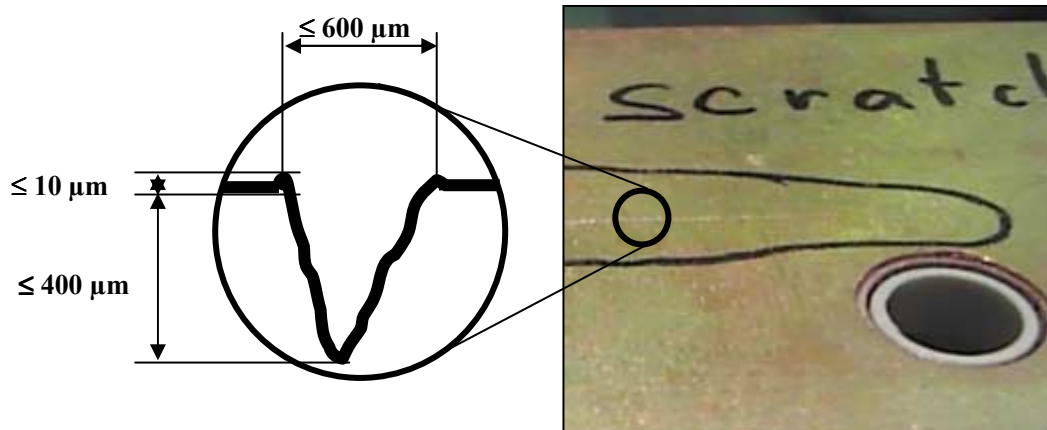
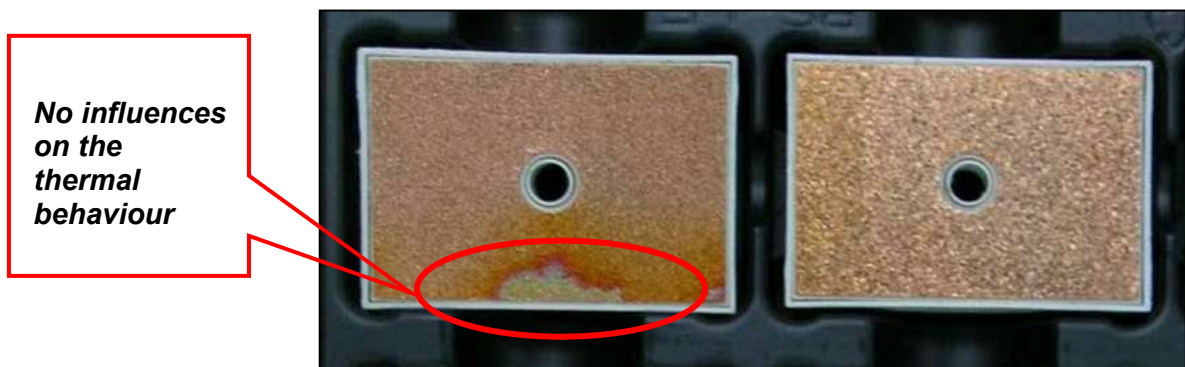

Figure 2 - Scratches on the SEMITOP bottom surface
Figure 3 – Discoloration on SEMITOP bottom surface
- The following figures (Figure 2 and Figure 3) define surface characteristics, which do not affect the thermal behaviour.